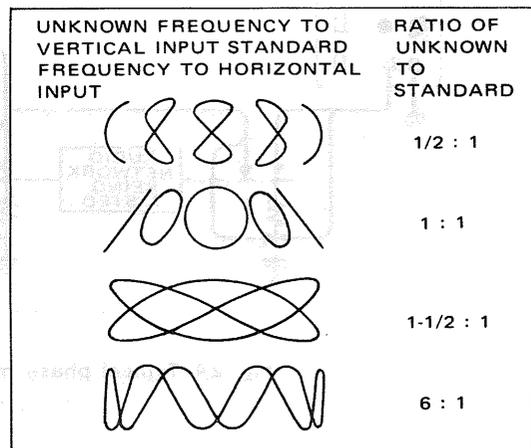

Fig. 27 Lissajous' waveforms used for frequency measurement
- The resulting, called Lissajous' pattern, shows the ratio between the two frequencies (see Fig. 27).